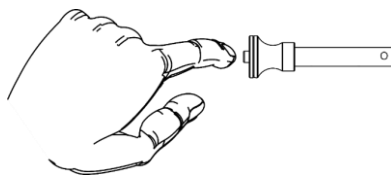

Fig. 19
- 02) Push and hold down the button of the **spring-loaded pin (15)** (Fig. 19).